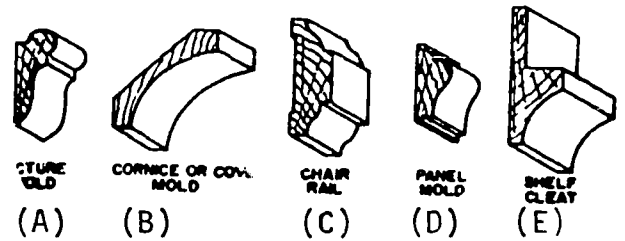

Figure 8. Ceiling and Wall Trim
The picture mold shown in (A), figure 8, is placed against the wall near the ceiling - usually up against the ceiling. Some builders prefer to lower it to 12 or 16 inches below the ceiling. The cornice mold shown at (B) is usually fitted and nailed against both the ceiling and wall of a room. The chair rail (C) may be placed on the wall at any one of various heights, such as the height of the back of a chair or 48 inches from the floor. The panel mold (D) is used to divide wall spaces into panels. Shelves in closets rest on cleats, illustrated at (E), making it easy to remove the shelves as desired.